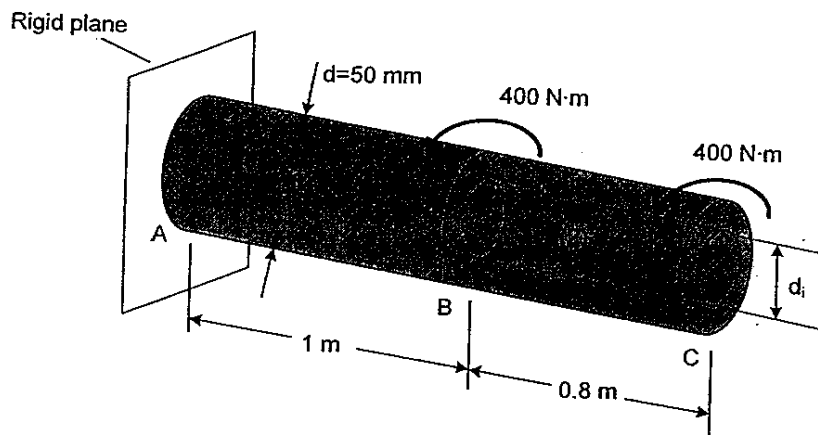

Figure Q3(a)
- (b) A steel/wood sandwich beam is fabricated from two  $80$  mm  $\times$   $160$  mm wooden beams and a  $10$  mm  $\times$   $160$  mm steel plate. The cross section of the sandwich beam is illustrated in Figure Q3(b). The ratio of the elastic moduli of steel and wood is  $E_s / E_w = 20$ .